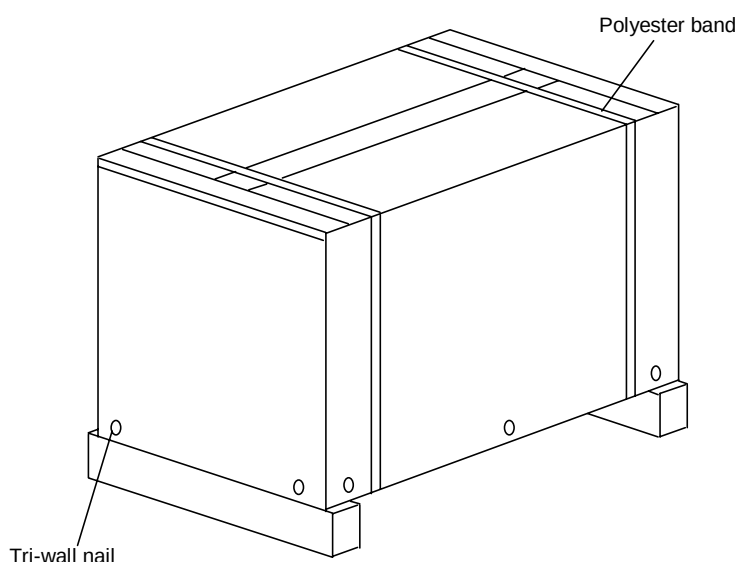

Figure 3.1.1 Subsystem being Packed
- (1) Figure 3.1.1 shows how the subsystem has been packed.